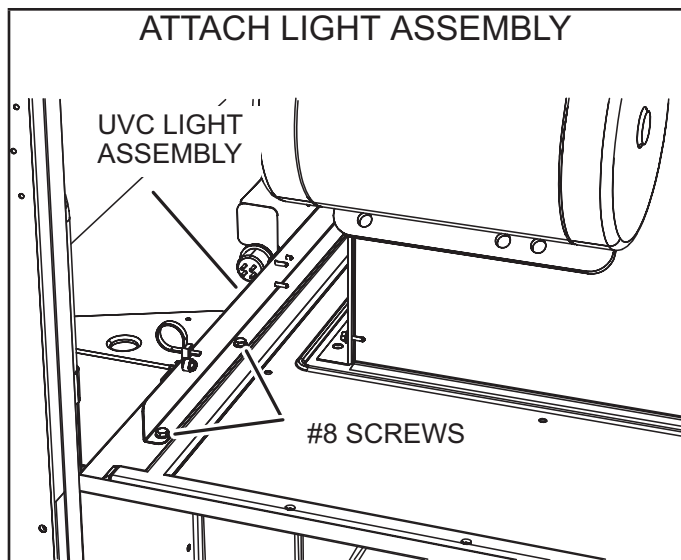

FIGURE 40
- 8 - Carefully place the UVC assembly on the blower deck. Line up the mounting holes on the UVC assembly with the mounting holes on the blower deck. See FIGURE 40. Use the #10 screws provided to attach the UVC assembly in place.